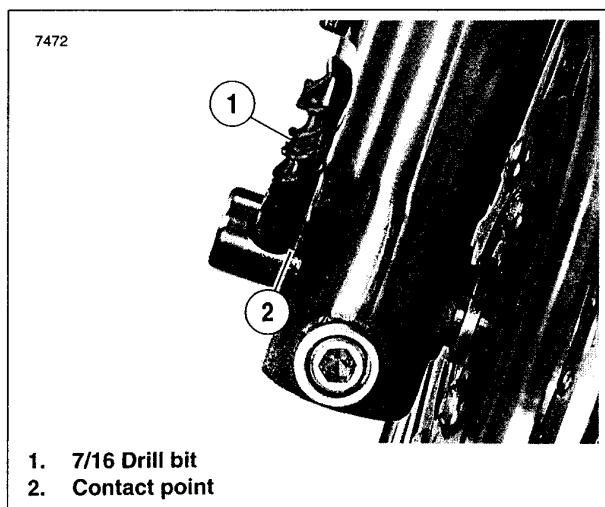

Figure 1-19. Dual Caliper Alignment
- *On the right side of the vehicle, the pad with two tabs (1) installs on the inboard side of the caliper.*
- *On the left side of the vehicle, the pad with two tabs (1), installs on the outboard side of the caliper.*
- a. See Figure 1-19. On models with dual front calipers, check alignment of brake discs to calipers. Loosen axle pinch bolt nuts. Tighten axle nut to proper torque. Insert a 7/16 in. drill bit (1) through hole in front axle as far as it will go. Contact point (2) must have edge of drill bit touching the edge of fork leg. See 2.4 FRONT WHEEL.